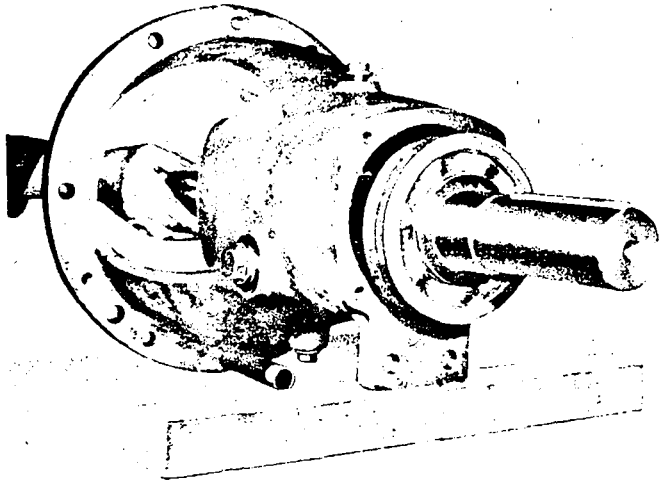

Fig. 22: Driving the shaft out of the bearing bracket
With light taps, drive shaft (210) with grooved ball bearings (321) carefully out of the bearing bracket (330) - fig. 22.